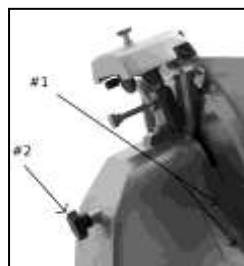

Figure 9 – Dismounting the deflector and the knife cover
- Loosen deflector release knobs (Fig 9, #1);
- Rotate the cover release knob counter-clockwise to loosen (Fig. 9, # 2);